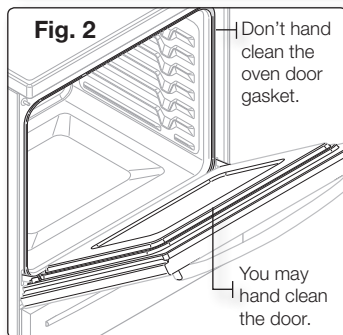

Fig. 2
- Do not clean the gasket. The fiberglass material of the oven door gasket cannot withstand abrasion. It is essential for the gasket to remain intact. If you notice it becoming worn or frayed, replace it. (Fig. 2)